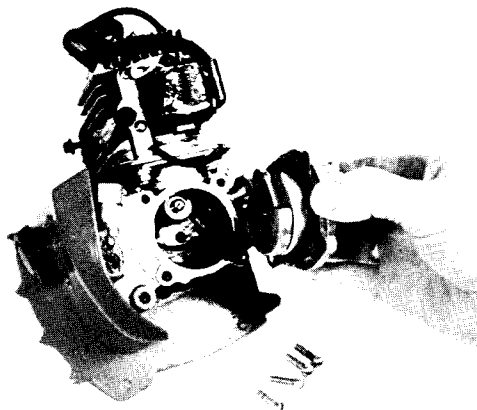

Fig. 17 — Removing/Installing Bearing Carrier and Flywheel Half of Crankshaft
13. Remove four screws and remove bearing carrier and flywheel half of crankshaft, Fig. 17.
8. With cylinder at T.D.C. install bearing carrier and flywheel half of crankshaft, Fig. 17. Secure with retaining nuts.